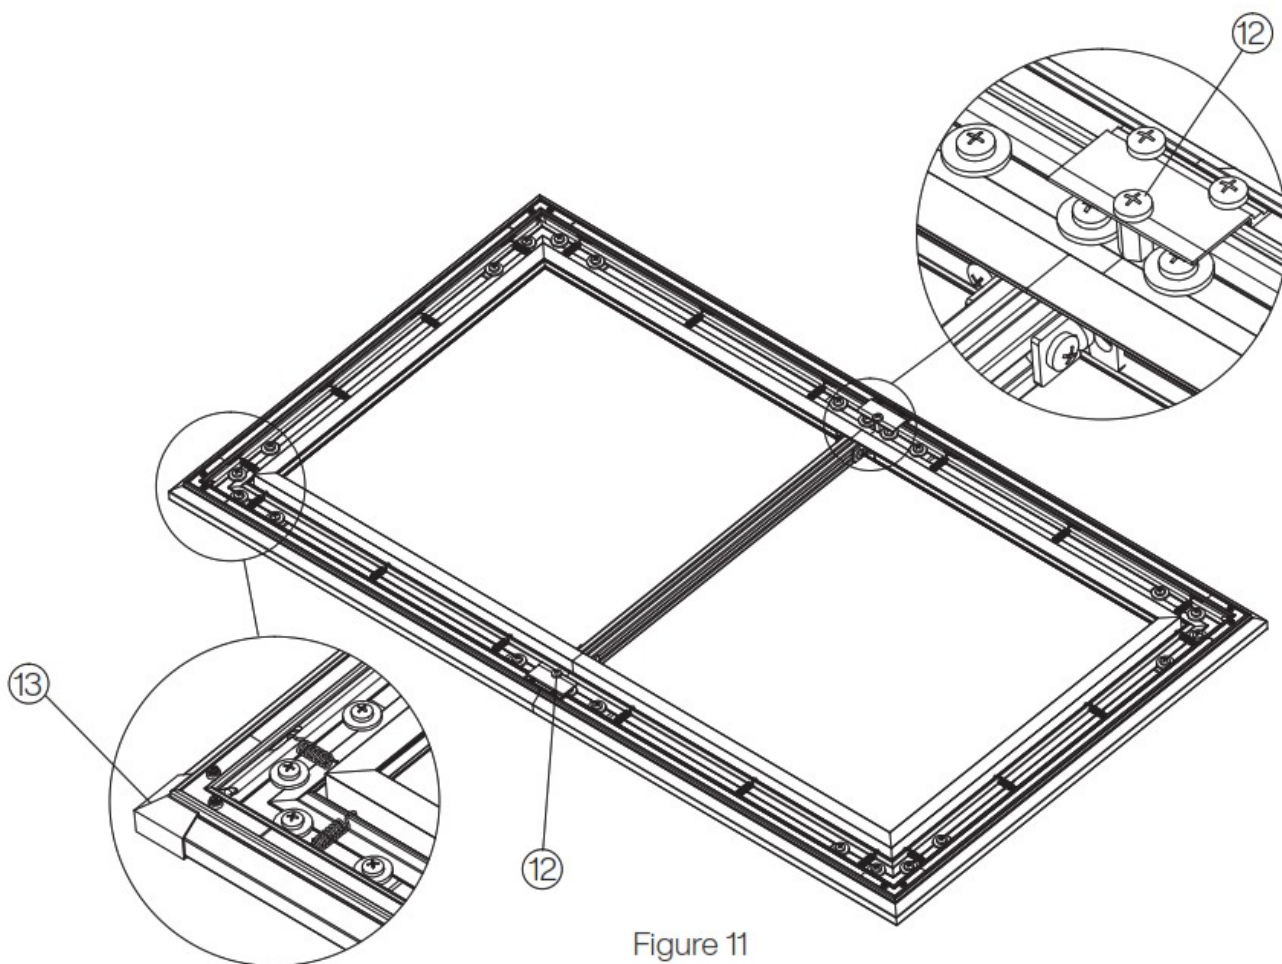

Figure 11
3. Use screws to lock the joints of the outer frame on the hexagonal studs, and clip the corner protectors into the slots of the outer frame (Figure 11)